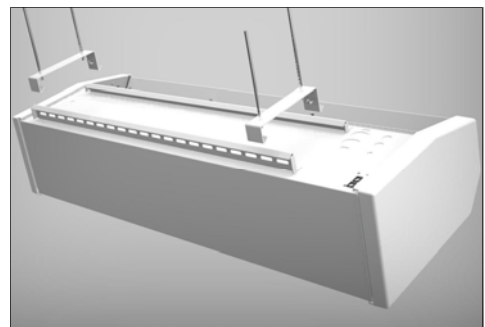

Fig 6
Step 2 Screw and bolt threaded rods into ceiling brackets as shown in Fig 6.